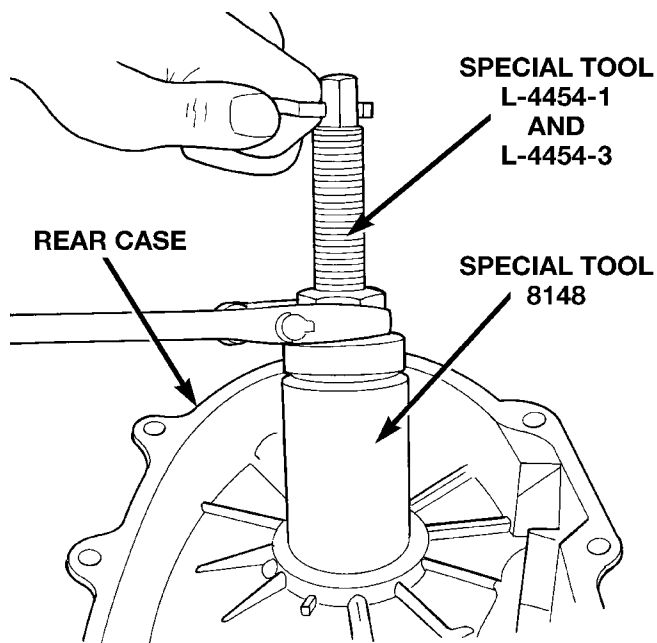

Fig. 47 Output Shaft Rear Bearing Removal
(7) Remove the output shaft rear bearing with the screw and jaws from Remover L-4454 and Cup 8148 (Fig. 47).